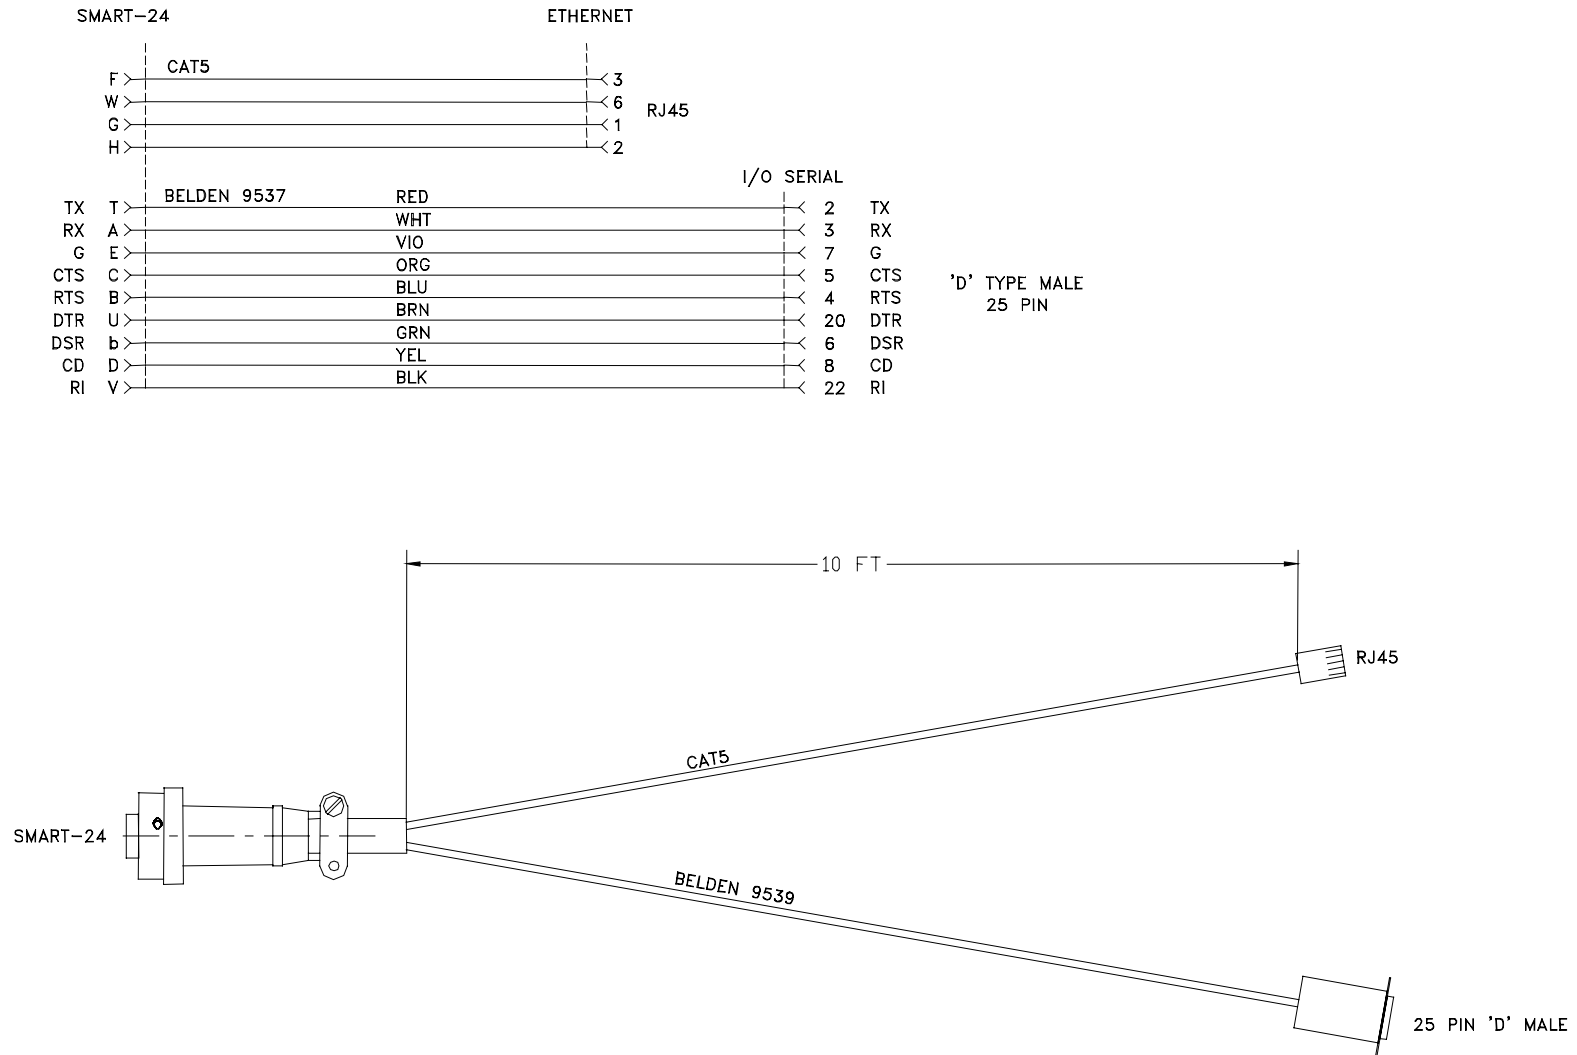

Figure A-6. SMART-24 I/O Cable, Serial to 25 Pin Modem Plus Ethernet
- Figure A-6. SMART-24 I/O Cable, Serial to 25 Pin Modem Plus Ethernet